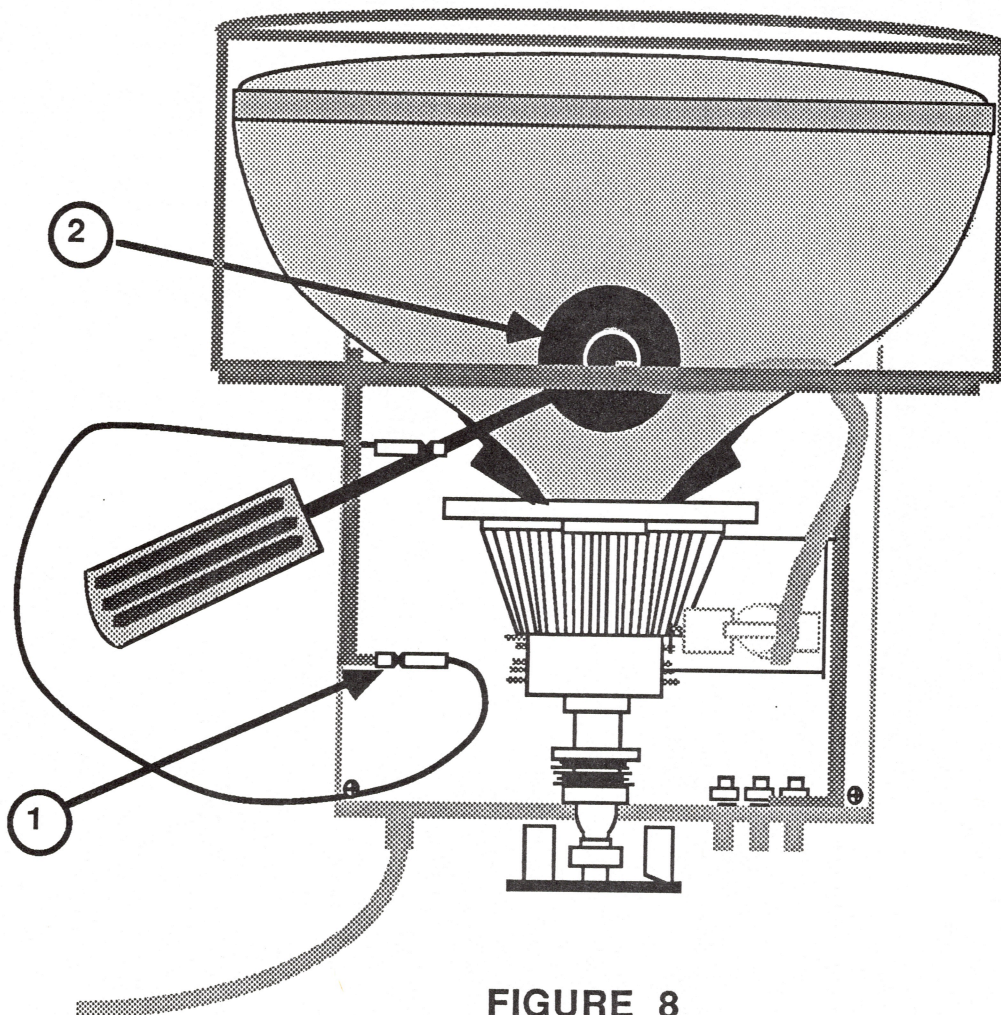

FIGURE 8
6. Attach one end of an alligator lead to a long flatblade screwdriver, two inches from the insulated handle. Attach the other end to any part of the metal bracket surrounding the power supply board. (Figure 8, #1.)
7. Slide the screwdriver under the CRT anode cap (Figure 8, #2) and push it towards the center of the cap until the blade contacts the metal anode ring.